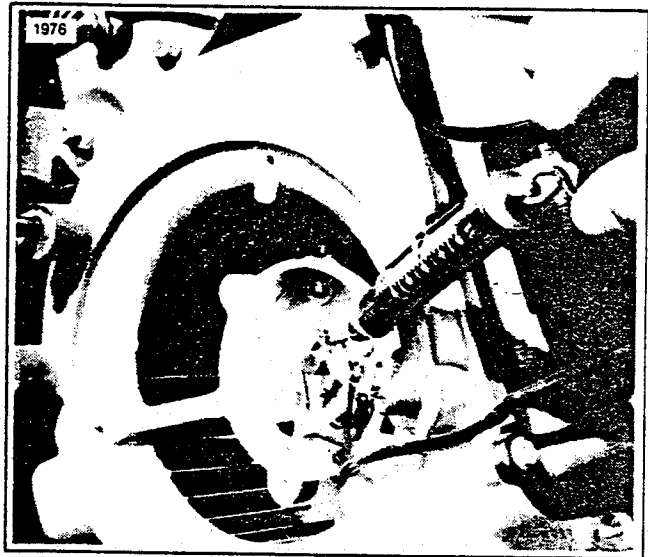

Figure 8-13. Breaker Points — Spring Retension
4. See Figure 8-13. Circuit breaker points should be removed, if breaker point pressure is not within prescribed limits of 14 to 18 oz. Check pressure with a spring gauge. The scale should be hooked to the breaker lever at an angle of 90° with the point surface and reading taken just as points break. Excessive pressure causes rapid fiber block wear, cam and breaker point wear, while insufficient pressure will permit high speed point bounce which will, in turn cause arcing and burning of the points and missing of the engine. Point faces must seat squarely against each other. If not, square up by bending stationary and/or movable point.